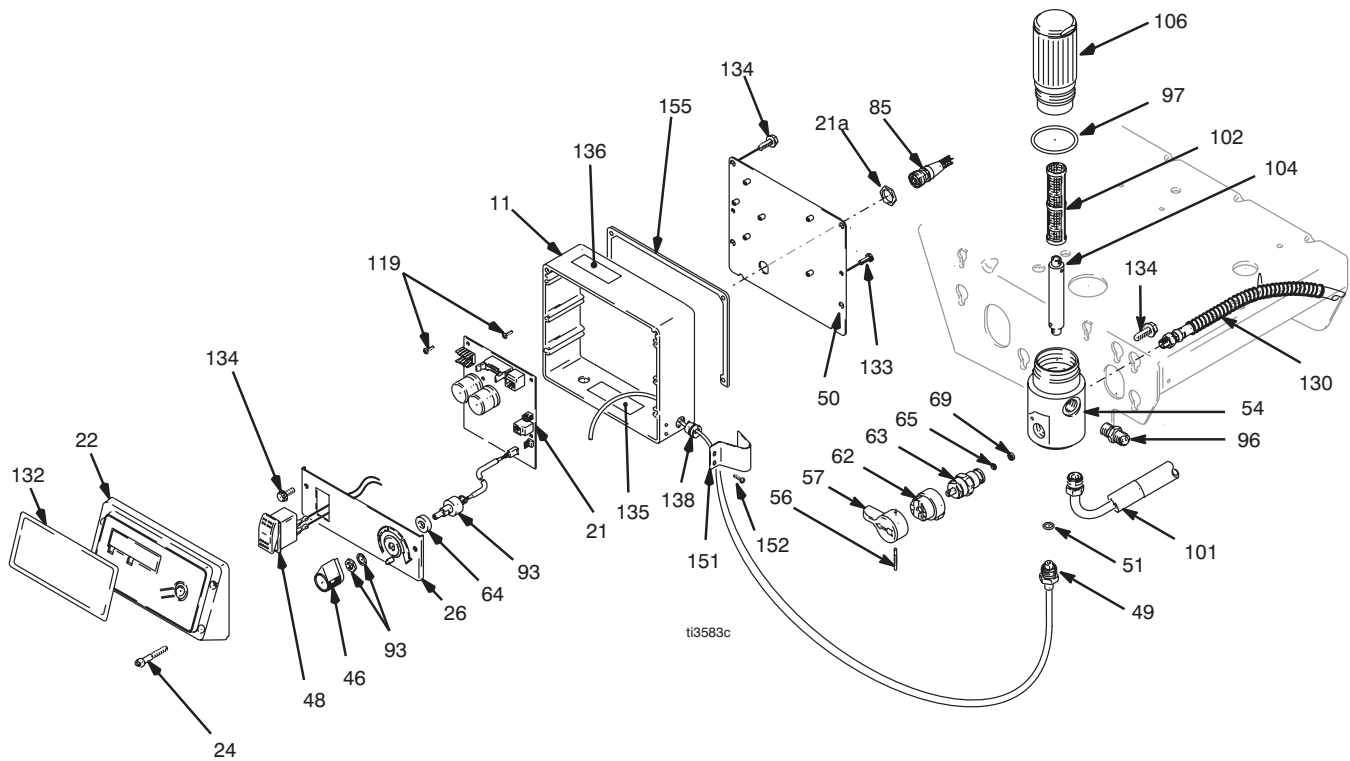

FIG. 15
2. FIG. 15. Remove four screws (24) and cover (22).
3. Disconnect ON/OFF switch connector (B) from PC board.
4. Press in on two retaining tabs on each side of ON/OFF switch (48) and remove switch.
3. Disconnect at control board (21):
- Lead (D) from potentiometer
- Lead (E) from transducer
- Remove ON/OFF switch (48) connector (B)
4. Remove six screws (119) from control board (21) and green ground wire.
5. Remove pinion housing connector (85) at backside of pressure control. Remove jam nut (21a) and control board (21).
1. FIG. 15. Install control board (21) and jam nut (21a). Install pinion housing connector (85) at backside of pressure control. Ensure locking ring fully detends on connector.
2. Install green ground wire and control board (21) with six screws (119).
3. Connect to control board (21):
- Connect ON/OFF switch (48) connector (B)
- Lead (E) to transducer
- Lead (D) to potentiometer
3. Disconnect Lead (E) from control board (21).
4. Remove two screws (152) and transducer guard (151) from control housing (11). Pull transducer connector through rubber grommet (138).
5. Remove pressure control transducer (49) and o-ring (51) from filter housing (54).
1. FIG. 15. Install o-ring (51) and pressure control transducer (49) in filter housing (54). torque to 30-36 ft-lb.
2. Install transducer connector and rubber grommet (138) in control housing (11). Install transducer guard (151) on control housing with two screws (152).
3. Connect lead (E) to motor control board (21).
4. Install display (22) with four screws (24).
3. Disconnect lead (D) from control board (21).
4. Loosen screws on potentiometer knob (46) and remove knob, shaft nut, lockwasher (93-A) and pressure adjust potentiometer (93-B).
5. Remove spacer (64) from potentiometer (93-B).
2. FIG. 15. Install pressure adjust potentiometer (93-B), shaft nut, lockwasher (93-A) and potentiometer knob (46).
- a. Turn potentiometer (93-B) shaft clockwise to internal stop. Assemble potentiometer knob (46) to strike pin on plate (26).